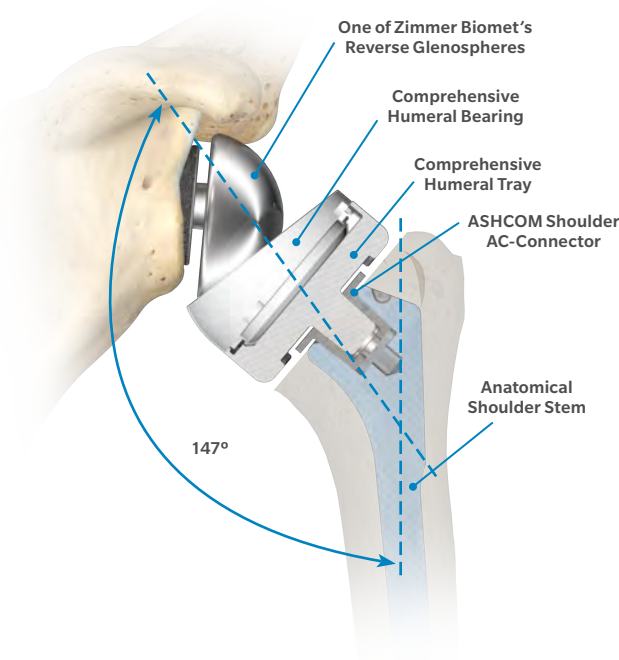

Figure 40
- ⓘ **Note:** A small gap between Humeral Tray and the humeral osteotomy will be seen and is necessary to guarantee that the individual components are locked together (Figure 40).